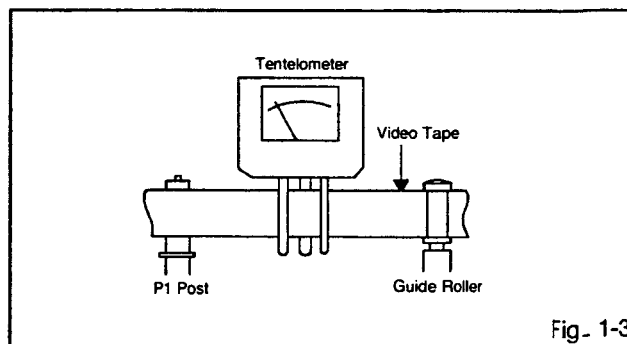

Fig. 1-3
2. Install the tentelometer as shown in Fig. 1-3. Confirm the value is within $20 \sim 27\text{gr/cm}$ at this time.